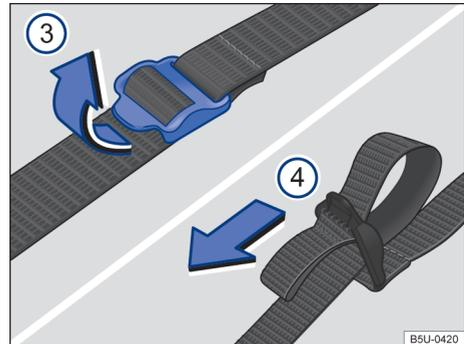

Fig. 127 Vehicle toolkit fastening straps.
- Pull the fastening strap buckles in the direction of the arrow → Fig. 127 ③.
- Firmly pull the straps ① in the direction of the arrow → Fig. 127 ④ to secure the toolkit.